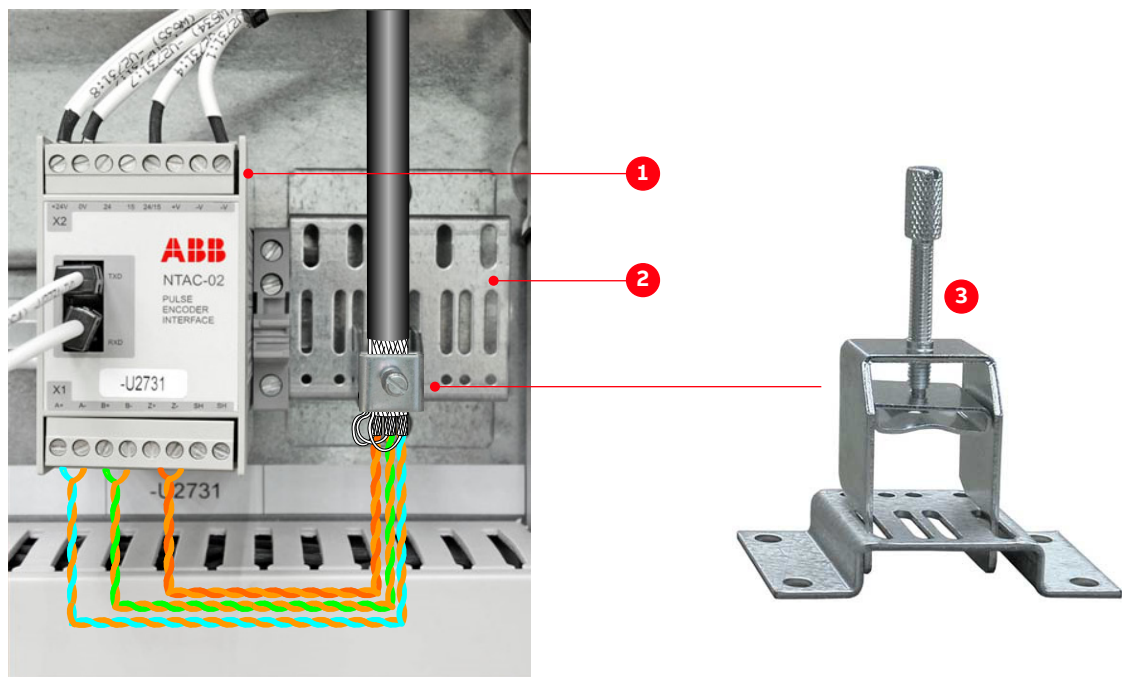

Figure 7-22: Shield grounding point for encoder cable
- Connect the overall shield and the individual shields of the encoder cable to the separate shield grounding bracket (2 in Fig. 7-22). Do not connect the shields directly to the encoder adapter (1 in Fig. 7-22).
**Note:** To accommodate encoder cables of different diameters, ground clamps (3 in Fig. 7-22) of different sizes are supplied.